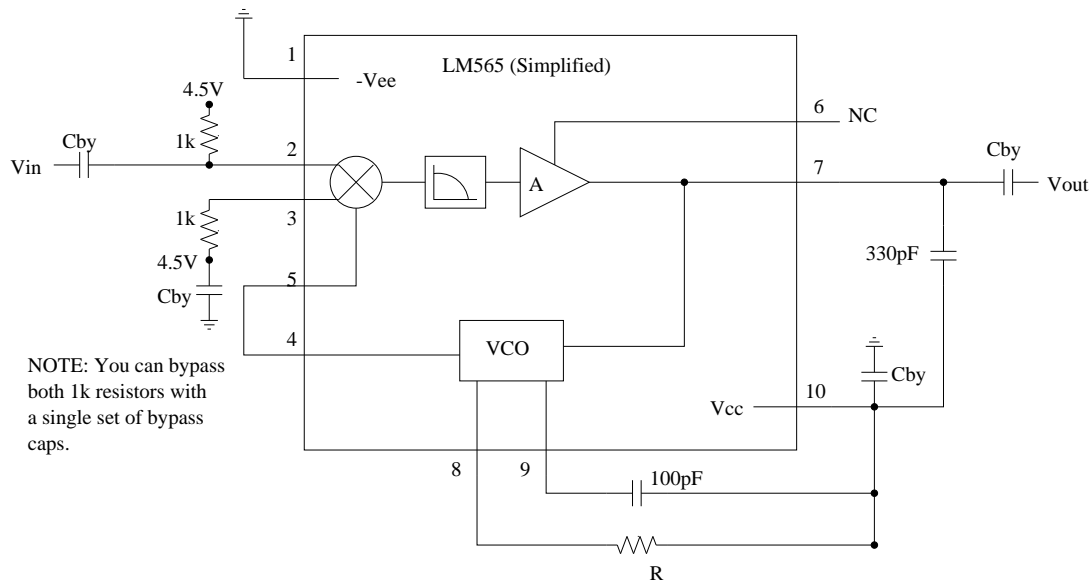

Figure 2: LM565 PLL
Please refer to Figure 2 in the course of this discussion. At the heart of the PLL is a VCO. In fact, the VCO is nearly identical to the LM566 which you used in lab last week (I told you it would be important). The rest of the PLL is nothing more than a feedback loop placed around the VCO so that it can be automatically adjusted to replicate the frequency of the incoming signal.
5. Build the circuit in Figure 2 for lab. You will use the circuit for FM Demodulation so it should go on the receiver board. (Make sure to re-check all your connections before powering this chip on, you want to be sure to get this one right the first time.)